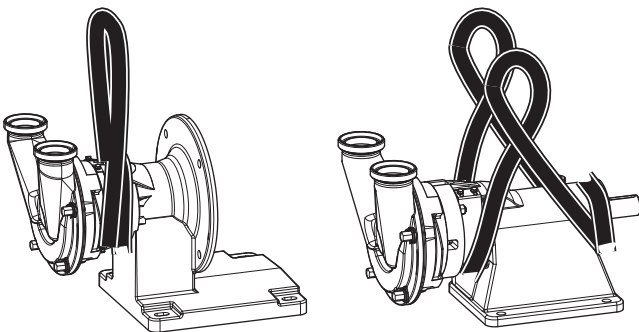

Fig. 41 Moving with crane illustrated using the KF and L
1. Wrap the round sling twice around the lantern neck (see Fig. 41, "Moving with crane illustrated using the KF and L").
1. Wrap the round sling twice around the back end of the bearing block (see Fig. 41, "Moving with crane illustrated using the KF and L").